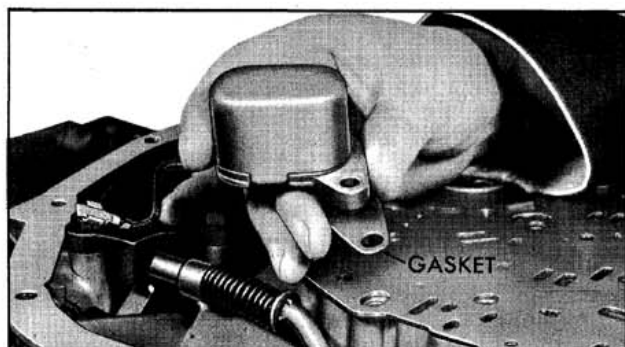

Fig. 6-46 Removing Detent Solenoid and Gasket
- Remove the solenoid attaching screws, solenoid assembly and gasket. (Fig. 6-46)